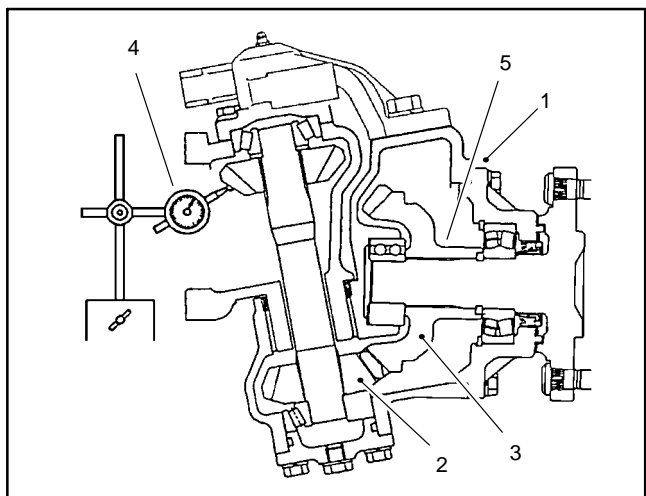

Figure 22
9. Remove the bevel gear case/axle case assembly from the axle support. Coat a new O-ring with grease and temporarily install the axle cover assembly. Position a dial indicator at the tooth center. Prevent the axle from turning and measure the lower bevel gear to axle gear backlash (Fig. 22).